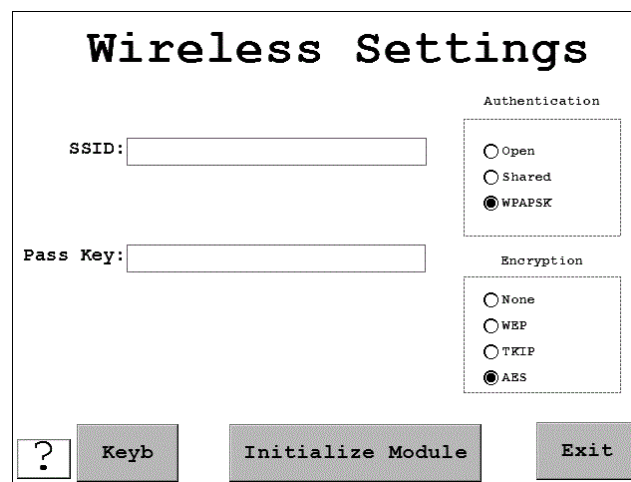

Figure C-5. Wireless Settings Screen
6. Press *Network Settings*. The Wireless Settings screen appears, Figure C-5, below.